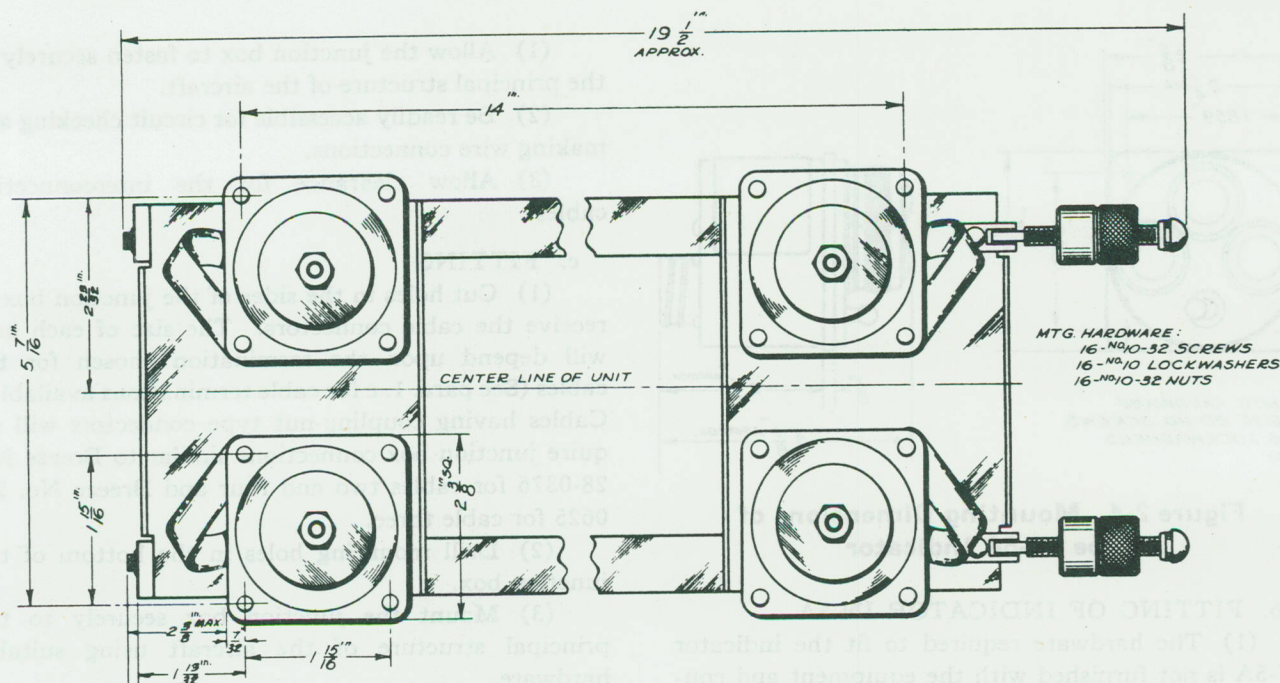

Figure 2-3. Mounting Dimensions of Type MR-64A Shockmount
(1) The hardware required to fit the shockmount is not furnished with the equipment and consists of:
(2) To fit the shockmount to the airframe it is necessary to:
- i. Drill 16 clearance holes for No. 10-32 screws in the mounting surface, these holes to match the four clearance holes in the bottom flange of each of the four shockproof mounts. The relation between holes is shown in figure 2-3.
- iii. Attach the shockmount to the airframe using the No. 10-32 screws, lockwashers and nuts keeping the four ground straps between the head of the screws and the flange of the shockproof mounts (See figure 2-3).
(1) Before proceeding with the fitting, make sure that the dust cover is properly secured to the receiver chassis. The spring fastener locking the cover to the chassis is located near the lower left corner on the back of the unit and when the chassis and cover are properly mated the locking action will take place when the slotted head stud is turned clockwise by 90°.
(2) Slide the receiver unit on the shockmount until the two spring loaded pins extending from the rear of the shockmount engage the receiver. Lock the receiver in place with the two locking devices located on the front of the shockmount by fitting the ferrules of the locking devices over the two small feet on the front of the receiver and tightening the wing nuts until the receiver is secure.
(3) The wing nuts of the locking devices are provided with holes for the safetying wire.
(4) Complete the fitting by connecting the antenna lead to P-103-1 and the interconnecting cable to J-101. Receptacles P-103-1 and J-101 are located on the front panel of the receiver unit. Cable fittings should make electrical contact to the receiver and should be mechanically tight.